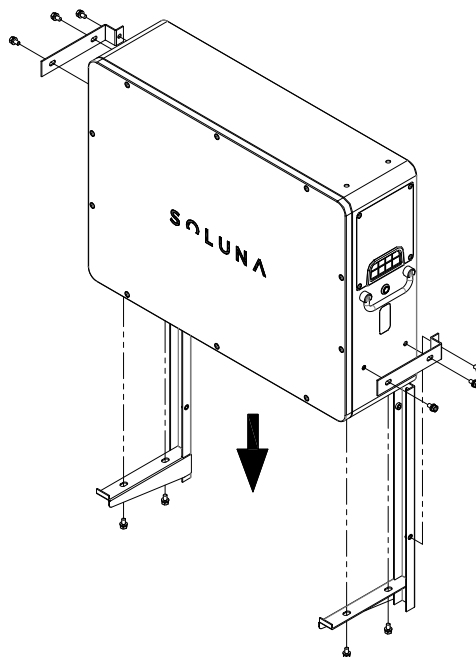

Figure 3.4
Step 3) Fix the product on the wall bracket with 10 PCS M6 screws. (Figure 3.4 as shown)